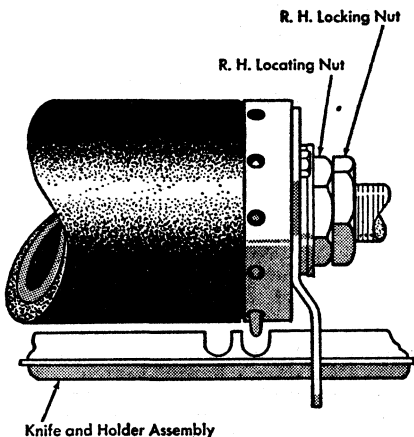

Figure 4. R. H. Pin Wheel Assembly
2. POSITION THE PIN WHEELS and platen assembly right or left by loosening the platen locking nuts so that the pins will be aligned in the center of their respective slots in the knife and holder assembly. It is extremely important that the pins be centered (Figure 4).